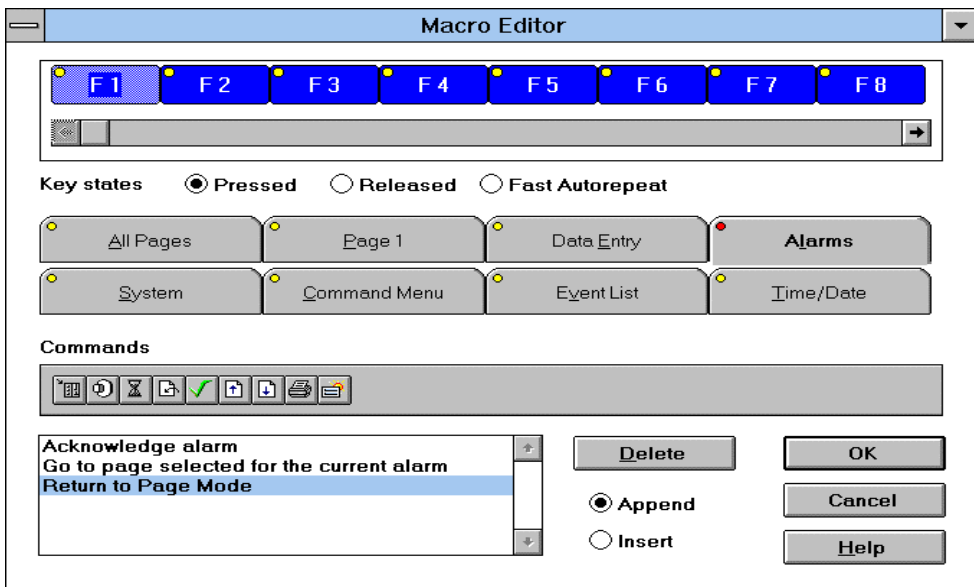

Figure 6-3
4. Select *Keyboard Macro Editor* from the *Project* menu. Assume that the F1 key is to perform the function of acknowledging the alarm and going to page 3. The dialog box shown in Figure 6-3 is a representation of how this key should be configured.